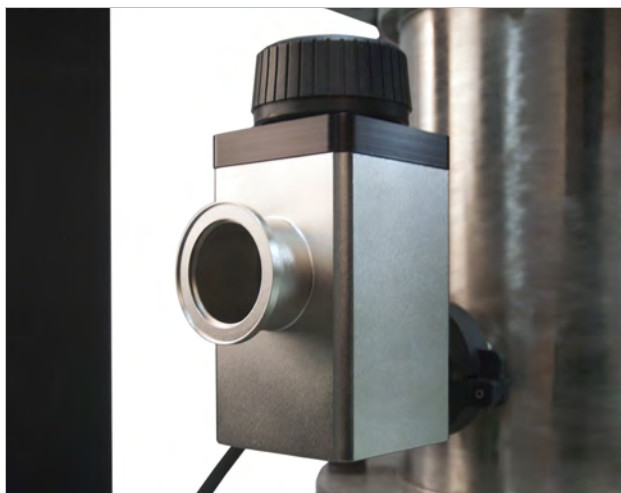

FIGURE 4-9 Left: Purge valve; Right: Vacuum isolation valve
- *Purge valve:* the purge valve shown in FIGURE 4-9 is used to backfill the chamber with dry nitrogen or inert gas. It is most commonly used when warming or venting the system.
2. Close the purge valve completely (FIGURE 4-9).
4. Open the vacuum isolation valve completely (FIGURE 4-9).
The purge valve shown in FIGURE 4-9 is used to purge the chamber with dry nitrogen or dry inert gas such as argon. It is most commonly used when warming or venting the system. During warm up, purging with dry gas can speed the warm up process (section 4.5.8, step 6). When opening a system, purging with a dry gas will prevent moisture and contaminants from entering the chamber, which will reduce pump-down time and improve vacuum quality. If available, dry argon is recommended because it is a heavy gas that is easier to evacuate with the turbo vacuum pump.